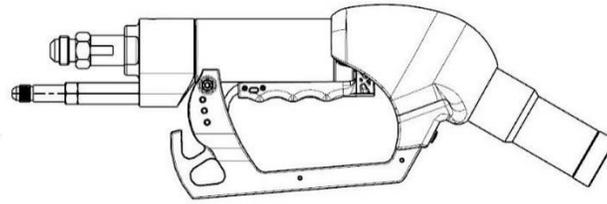

Figure 3 – Lever ON position
3. Lift nozzle lever until the latch engages ON position (Figure 3). An audible “CLICK” will be heard.